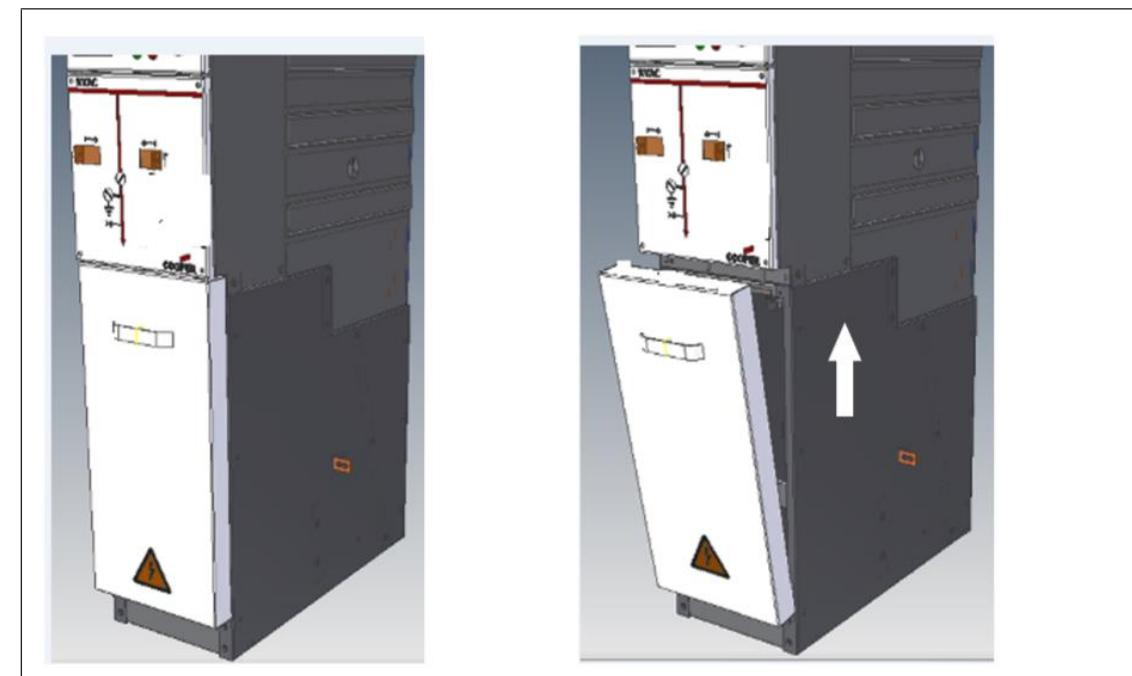

Figure 14.2 Removal of the cable compartment door
- b. Remove the cable compartment door, and open the cable compartment (see **Figure 14.2**);